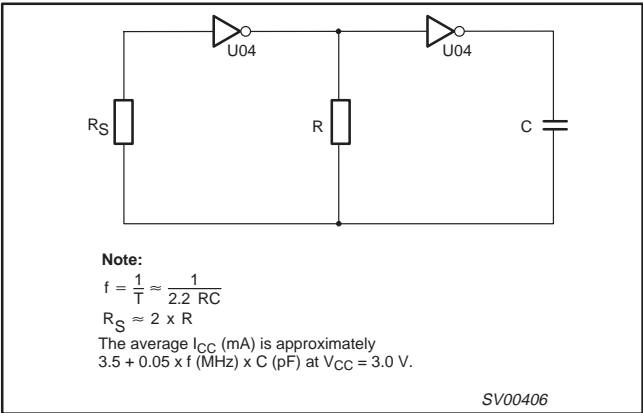

Figure 9. LVU04 used as an astable multivibrator.
- Astable multivibrator (see Figure 9)